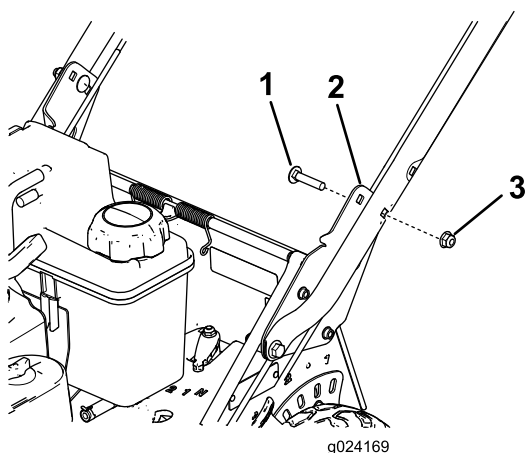

Figure 5
5. Secure the handle onto the handle brackets at your desired handle height with 2 carriage bolts (5/16 x 1-1/2 inches) and 2 flange nuts (5/16 inch) as shown in Figure 5.